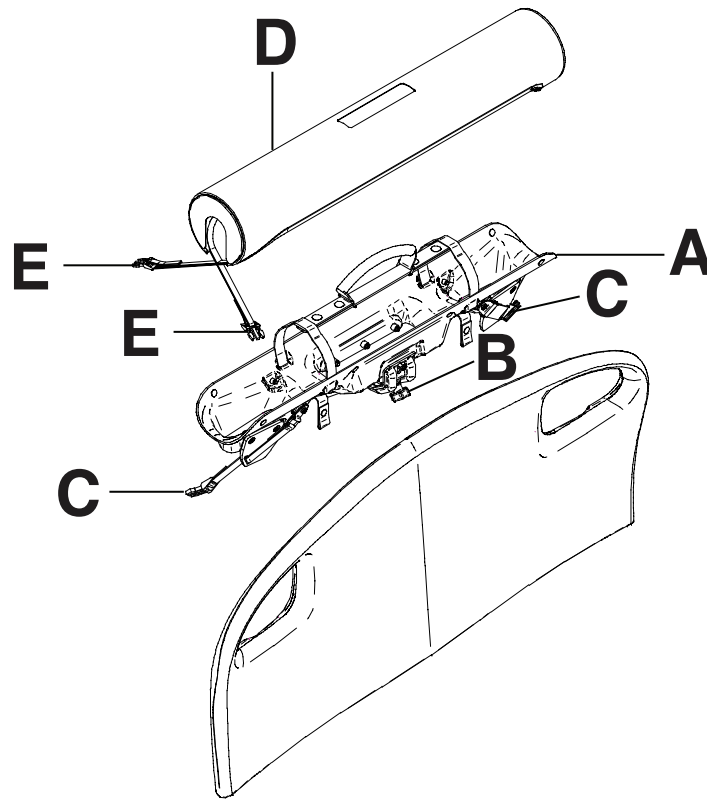

Figure 117 – Right fit oxygen bottle holder
1. Place the oxygen bottle holder on top of the headboard (A) (Figure 117).
2. Screw the oxygen bottle holder clasp onto the headboard (B) to secure the bottle holder to the product.
3. Route the bottom straps (C) through the headboard handles.
6. Place the oxygen bottle holder cover on top of the oxygen bottle (D).
7. Fasten the oxygen bottle holder cover straps together (E).